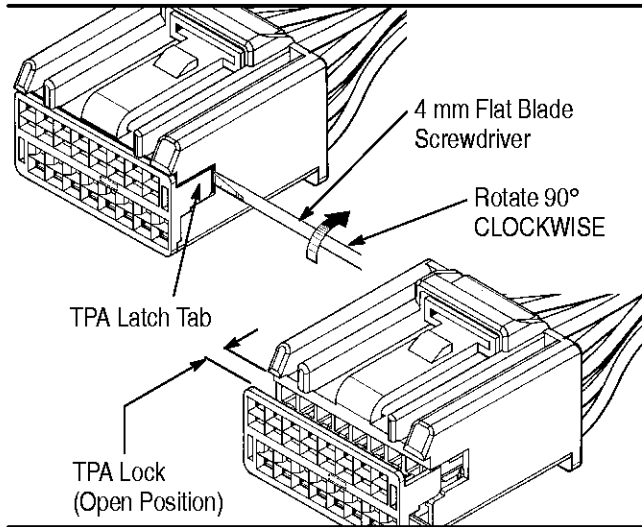

Figure 4
1. Insert a 4 mm flat-blade screwdriver between the TPA latch tab and plug housing as shown in Figure 4.